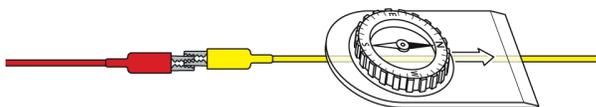

Figure 1
1. Clip several wires together. Place the magnetic compass over the wires as shown in Figure 1. Connect the battery to the ends of the wire and observe the compass. Try this several times, moving the orientation of the wire relative to the room each time. Record your observations.